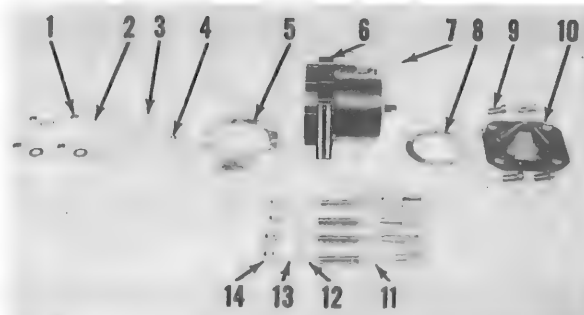

Figure 3-38. Synchronizing - Breaker Assembly
c. Remove and discard screws (9, figure 3-38) that secure cover (10) to drive end of synchronizing-breaker housing. Remove cover and gasket (8).
d. Remove and retain washers (2) and nuts (1) that secure cover (3) and gasket (5) to synchronizing-breaker (6). Remove hex studs (11).
e. Install one hex stud (11) on each of right tachometer-generator drive pad studs and tighten securely.
g. Place gasket (8) over pilot of synchronizing-breaker (6). Position synchronizing-breaker on hex studs (11) with electrical outlet (7) pointing to right and forward.